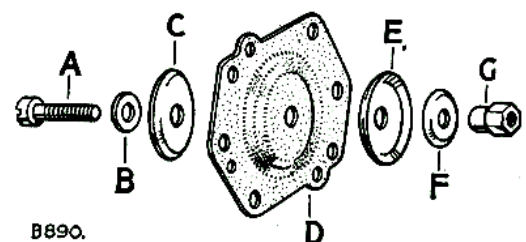

Fig. M-5—Layout of accelerator pump
5. Fit the operating rod to the new membrane (Fig. M-5), taking care not to twist the membrane when tightening the securing nut. Secure the nut by staking.